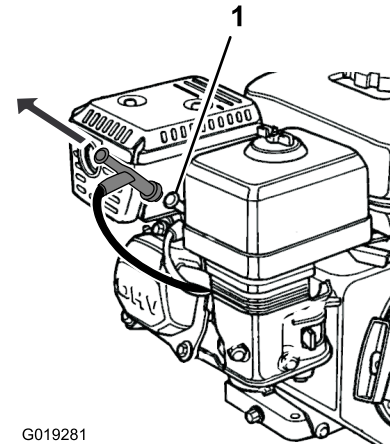

Figure 26
5. Carefully remove the spark-plug wire from the terminal of the spark plug (Figure 26).
11. Connect the spark-plug wire (Figure 26).